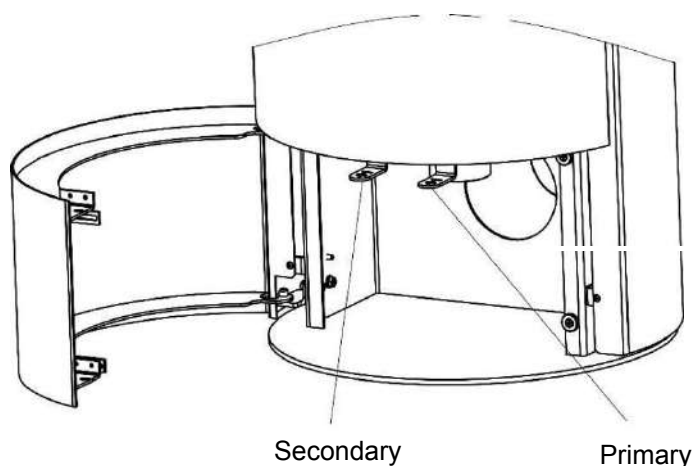

Figure 2
- 2) Open primary air to 100% (see figure 2).